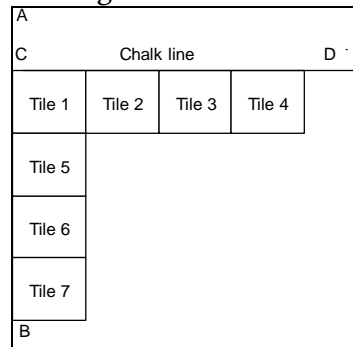

Figure 3
4. Place four tiles in either direction along the chalk line and straight wall (Fig 3).